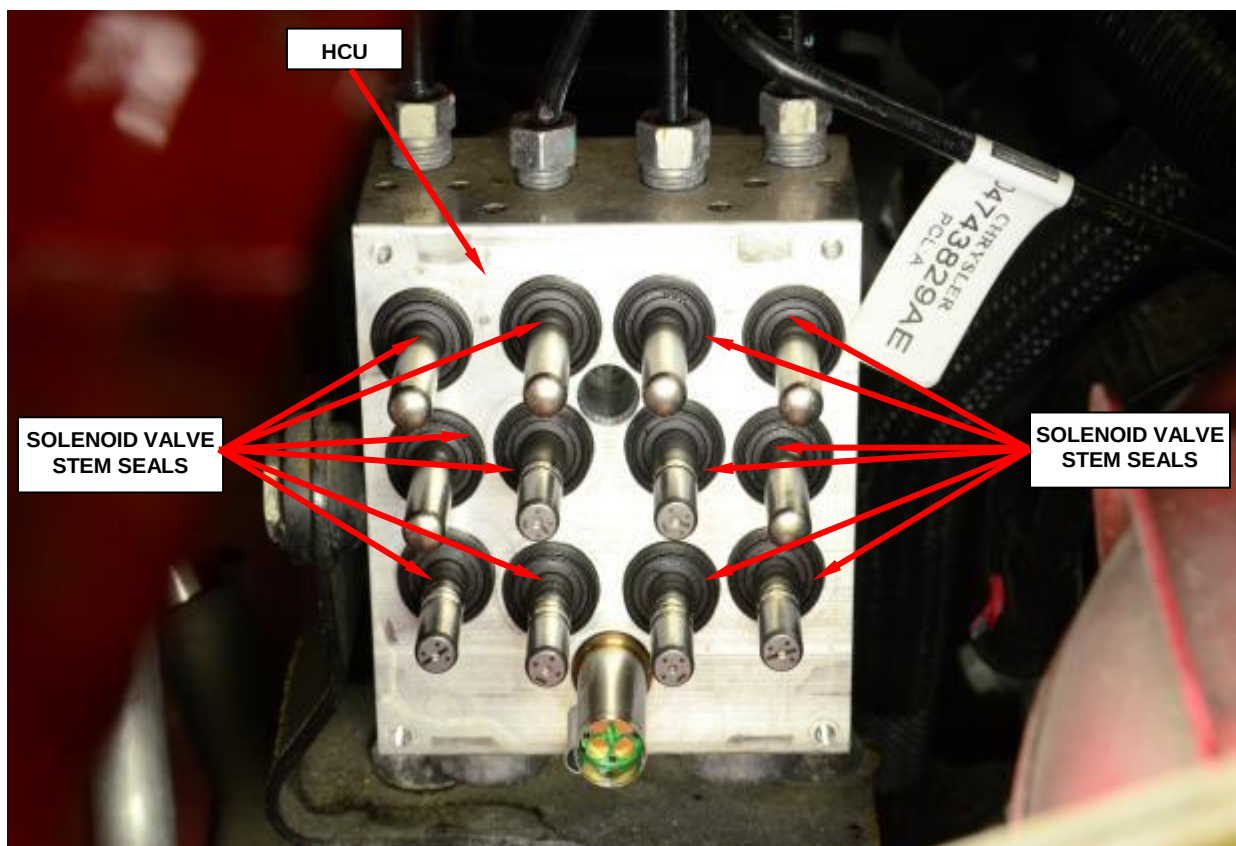

Figure 22 – Solenoid Valve Stem Seals
8. **NEW** solenoid valve stem seals are provided in the ABS control module kit. Remove the twelve old and install the twelve **NEW** solenoid valve stem seals to keep out moisture and debris; do not reuse solenoid valve stem seals (Figure 22).